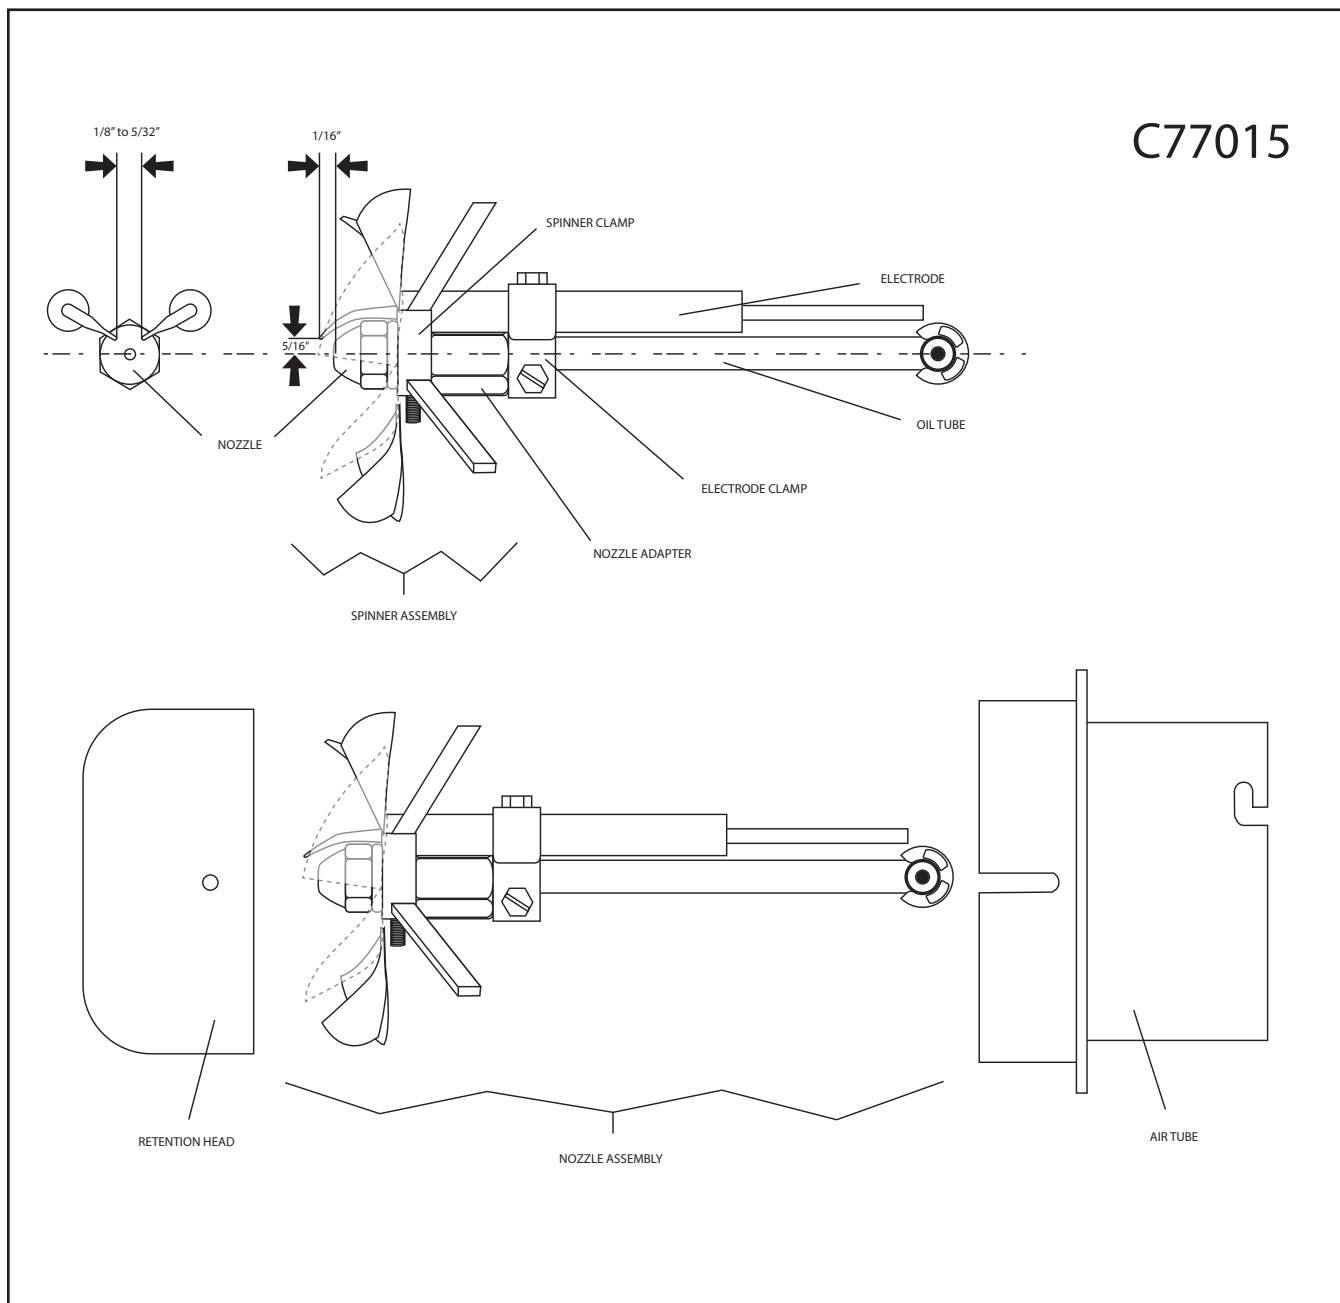

FIGURE 2B: INSERTING / REMOVING NOZZLE HEAD ASSEMBLY
3. Remove the retention head (Figure 2B).